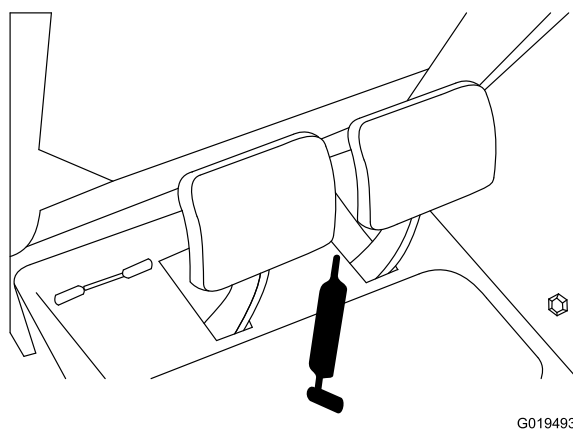

Figure 52
- Brake pedal shaft (1) (Figure 52).